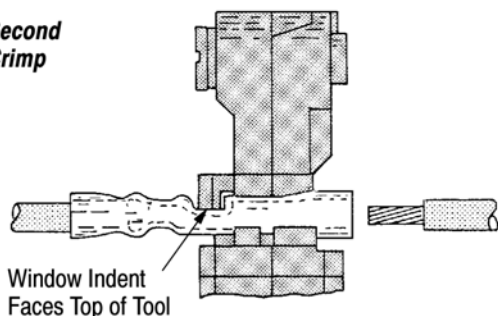

Figure 4
- Raise locator and place splice under locator as shown in Figure 4. Splice window indent faces top of tool.
To properly position pre-insulated sealed splice, apply and maintain pressure against end of splice until Step 5 is completed. See Figure 4.
- Insert stripped wire into terminal until conductor butts against locator. See Figure 3. Insert stripped wire into splice until conductor butts against splice wire stop. See Figure 4.
3. Insert UNSTRIPPED wire into ONLY the insulation barrel (see Figure 3 or Figure 4) of terminal or splice.